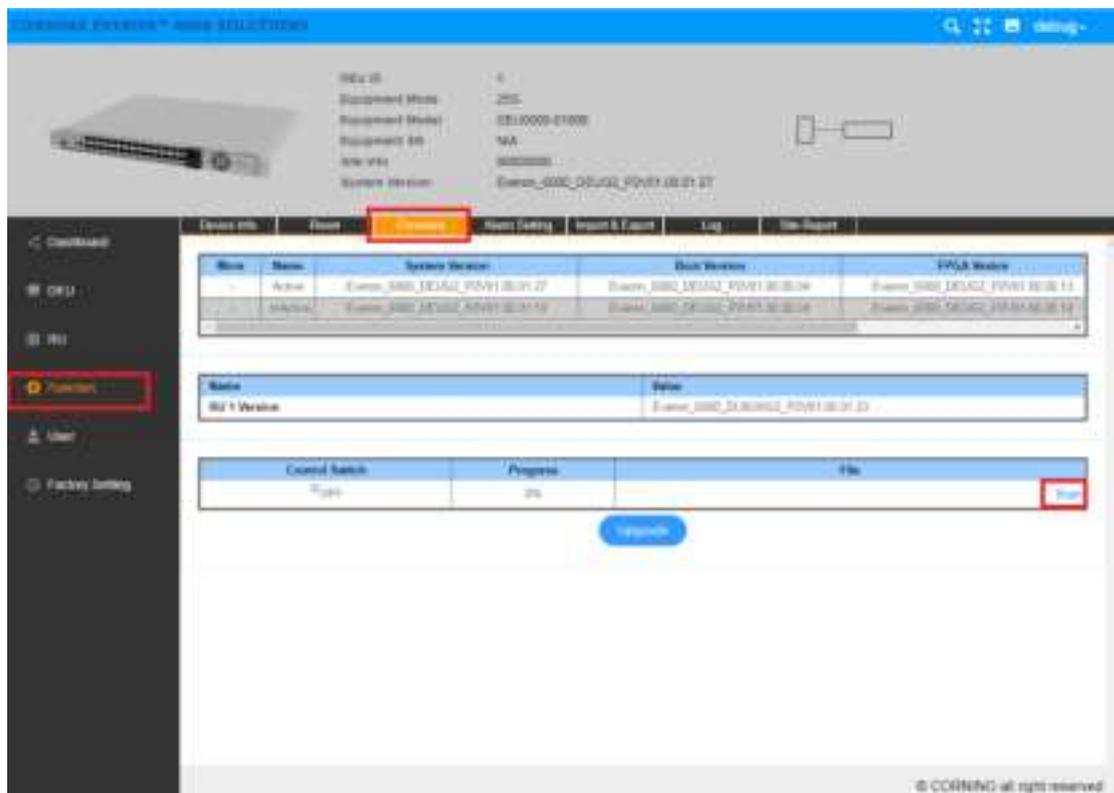

**Figure 5.2-4 DCU software query**
Step5: after the device upgrade and reset is completed, as shown in figure 5.2-4, the software version number of the DCU network element is Everon\_6000\_DCUI\_P2V01.00.01.41 indicates that the software of the DCU network element has been upgraded.